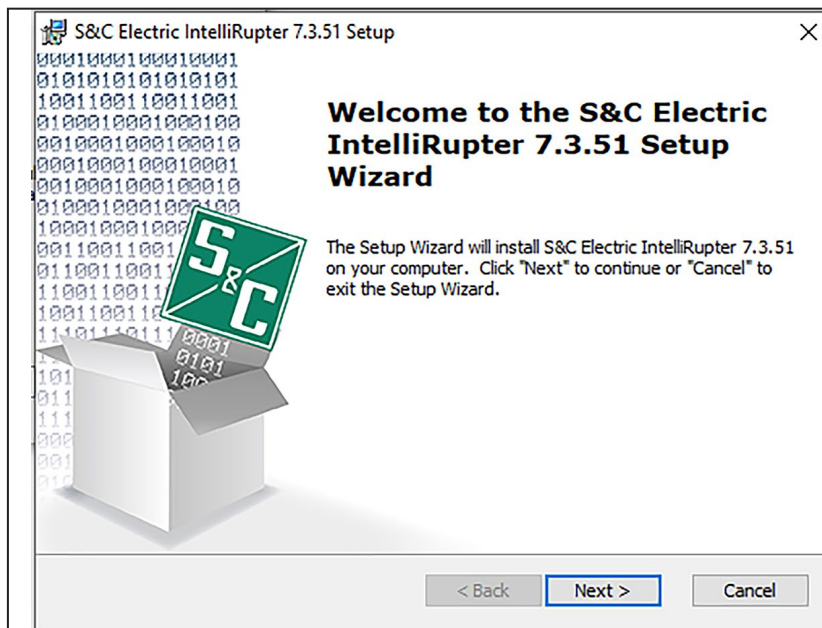

Figure 5. The first dialog box of the IntelliRupter fault interrupter Setup Wizard.
STEP 9. A dialog box displays the next component to be installed and its version number. Click on the **Next** button to continue. See Figure 5.